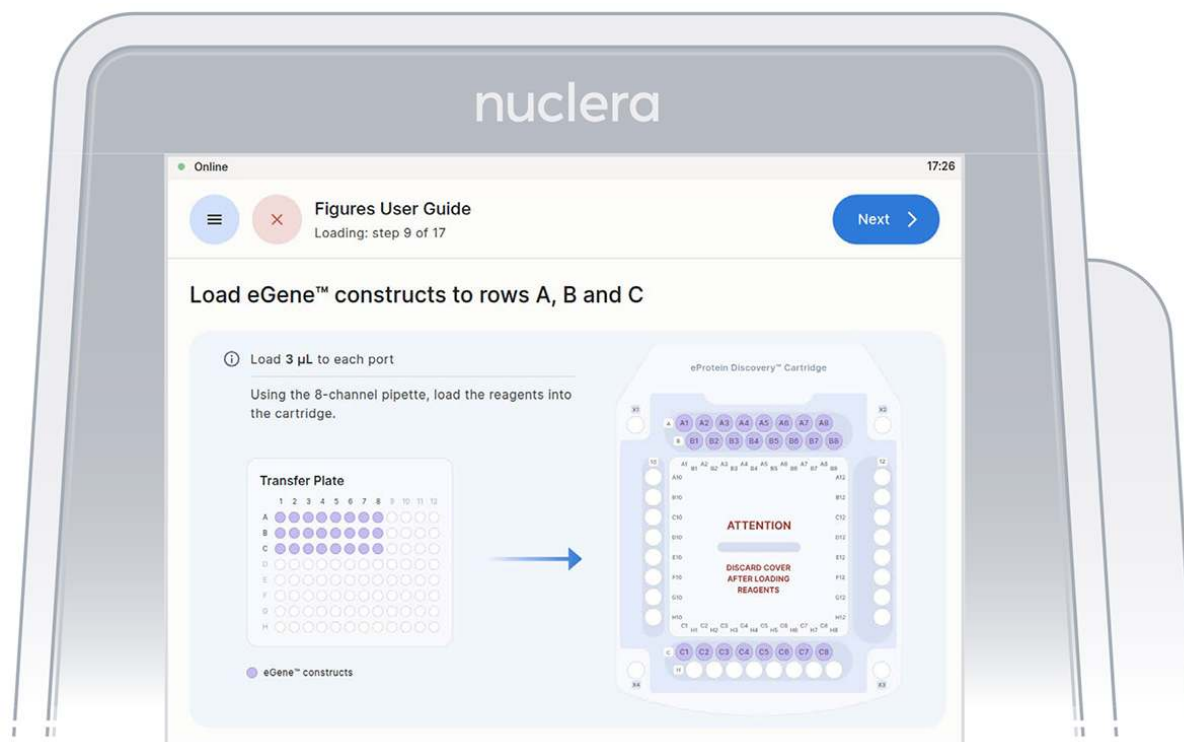

Figure 18: Loading of the eGene constructs onto row A, B and C of the cartridge
- Load 8x fresh pipette tips and aspirate 3 μ L of the eGene constructs from the transfer plate wells A1-A8 into ports A1-A8 of the cartridge (Figure 18).
- Load 8x fresh pipette tips and aspirate 3 μ L of the eGene constructs from the transfer plate wells B1-B8 into ports B1-B8 of the cartridge (Figure 18).
- into ports C1-C8 of the cartridge (Figure 18).